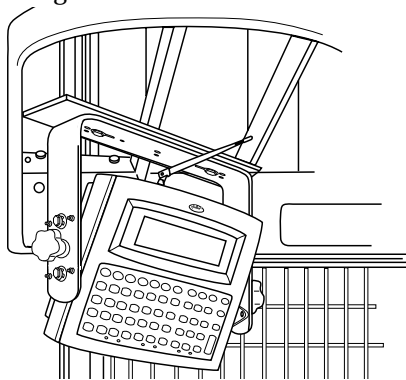
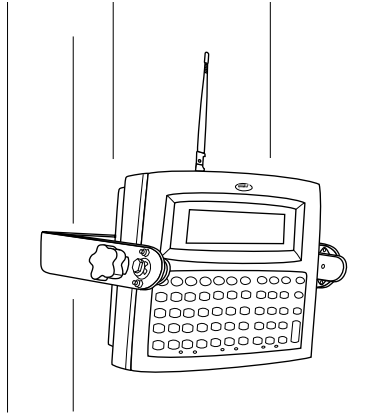

Figure 1. Terminal Mounted on a Vehicle
Figure 2. Terminal Mounted on a Wall
The physical requirements of the work area affect where you place the terminal. There are different installation options, depending on where you plan to locate it. Figure 1 shows a terminal mounted on a vehicle. Figure 2 shows a terminal mounted on a wall, and Figure 3 shows a terminal mounted on a workbench.
3. Attach the Bracket Knobs. When you first unpack it, the terminal has hex bolts in place of the Bracket Knobs shown in Figures 1, 2, and 3. These knobs allow users to adjust the angle of the terminal.